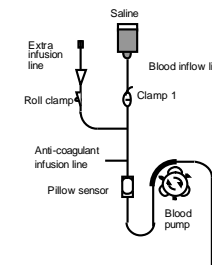

Fig.1
- 3) Insert the pump tube into the pump and the pillow sensor into the pillow sensor unit (Fig. 1).